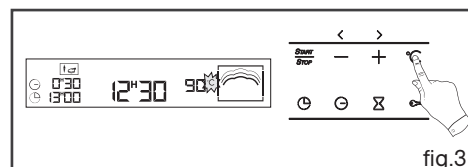

fig.3
**• Grid (fig.3)**
- Press the °C touch control until the "°C" symbol begins flashing (fig.3).